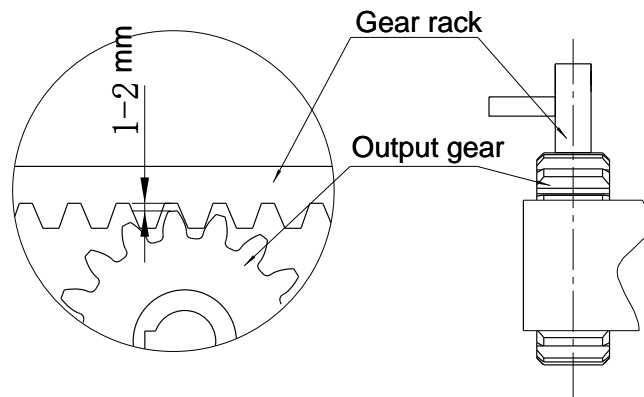

Figure 7
- Please check whether there is a fit clearance between rack and output gear, as shown in Figure 7.
The fit clearance of output gear and rack is shown in Figure 7 below: